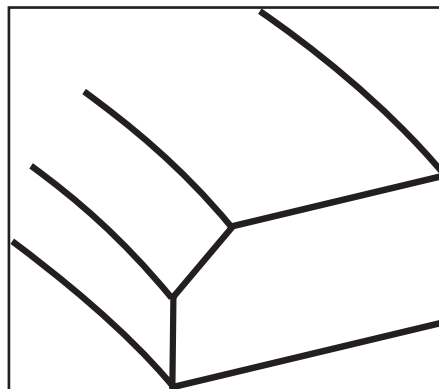

Figure 2
- 7- If ring has no dot but does have inside diameter bevel, bevel goes to top of piston. **See Figure 2** below.